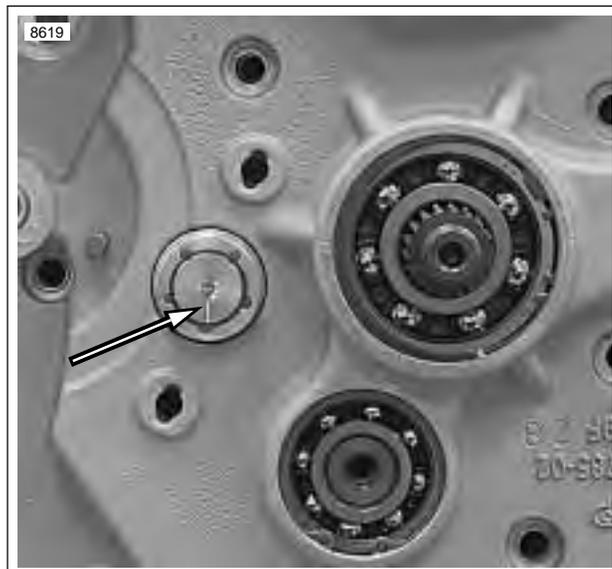

Figure 6-88. Scribed Line on Shifter Drum at 6 O'clock (Transmission in 4th Gear)
3. See Figure 6-88. Place Transmission in the 4th gear position. The scribed line on the shifting drum should be at 6 o'clock.